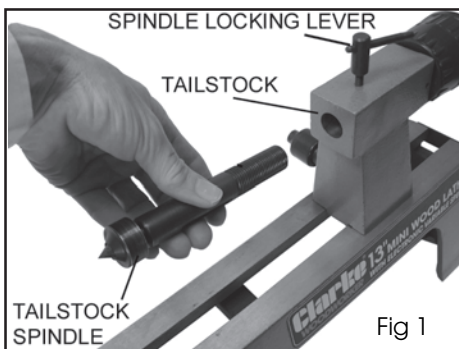

Fig 1
1. Screw the tailstock spindle into the tailstock as shown in Fig 1.